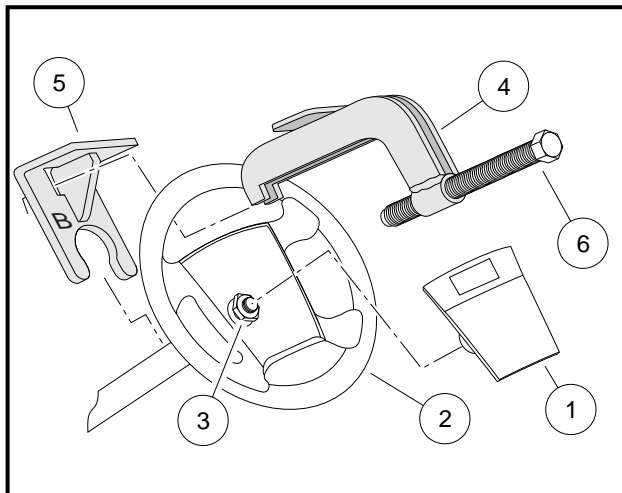

Figure 7-1 Steering Wheel Puller
- 5.1. Place the puller anvil (4) through the top opening of the steering wheel (**Figure 7-1, Page 7-2**).
- 5.2. Insert the anvil feet through the two slots in the base plate (marked "B") (5) as shown (**Figure 7-1, Page 7-2**).